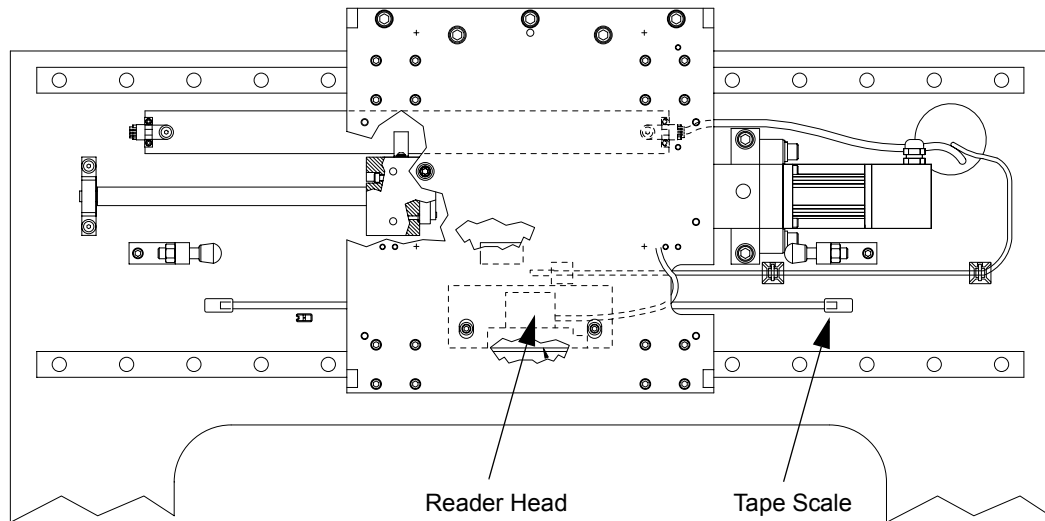

Figure 9-9 X-Axis Scale and Reader Head
3. Disconnect the X-axis reader head cable. The connector is located on the right hand side behind the X-stage and next to the lamp box; see Figure 9-9.